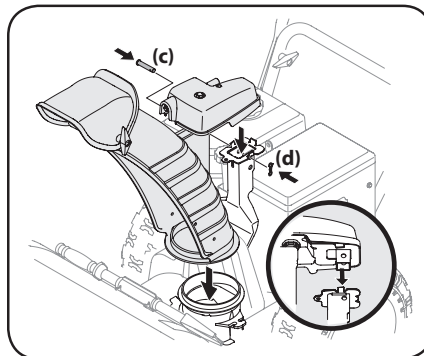

Figure 2-18
2. Place chute assembly onto chute base and secure chute control head to chute support bracket with clevis pin (c) and cotter pin (d) removed in Step 1. See Figure 2-18.